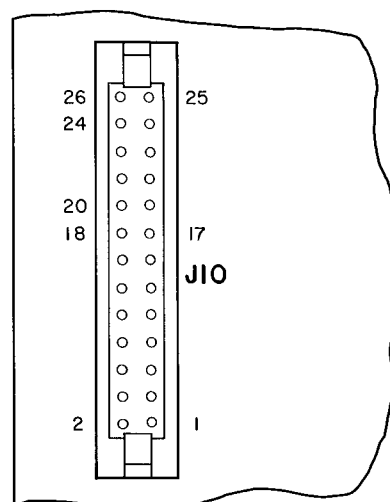

Fig. 23 — Display Board Connector
STEP 7 — DISPLAY BOARD CONNECTION CHECKOUT — Turn power OFF and *disconnect ribbon cable*. Connect the negative test lead to TP20 on the processor board. Turn power ON. You should get the following voltages at connector J10 (see Fig 23)